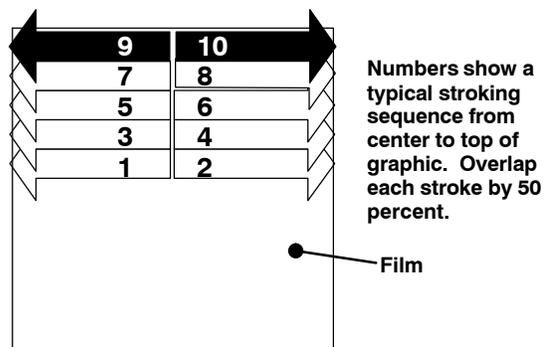

Figure 3. Smoothing a Small Graphic
9. To smooth out wrinkles or bubbles on a small section of film, use gentle, overlapping strokes of the plastic applicator and sleeve from the center of the graphic out to the edge. See Figure 3.